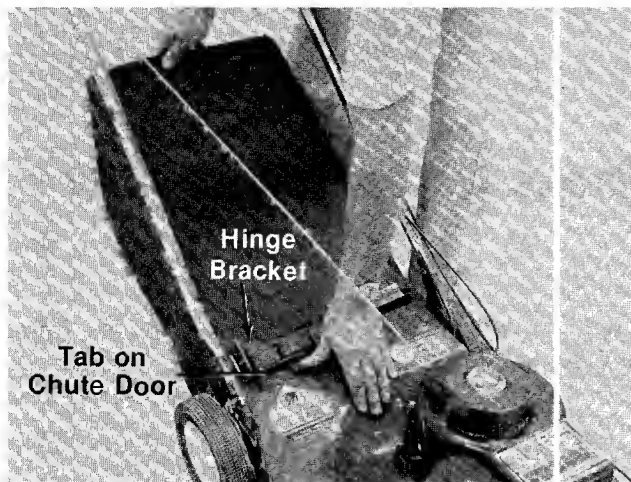

FIGURE 14.
9. Place the throttle control lever on the handle in "Fast" position. Refer to figure 14.
3. Push the tab on the chute door. The grass catcher frame will snap into place, secured by the chute door. See figure 14.
To remove the grass catcher, press the tab on the chute door and slip the grass catcher off the unit. See figure 14.